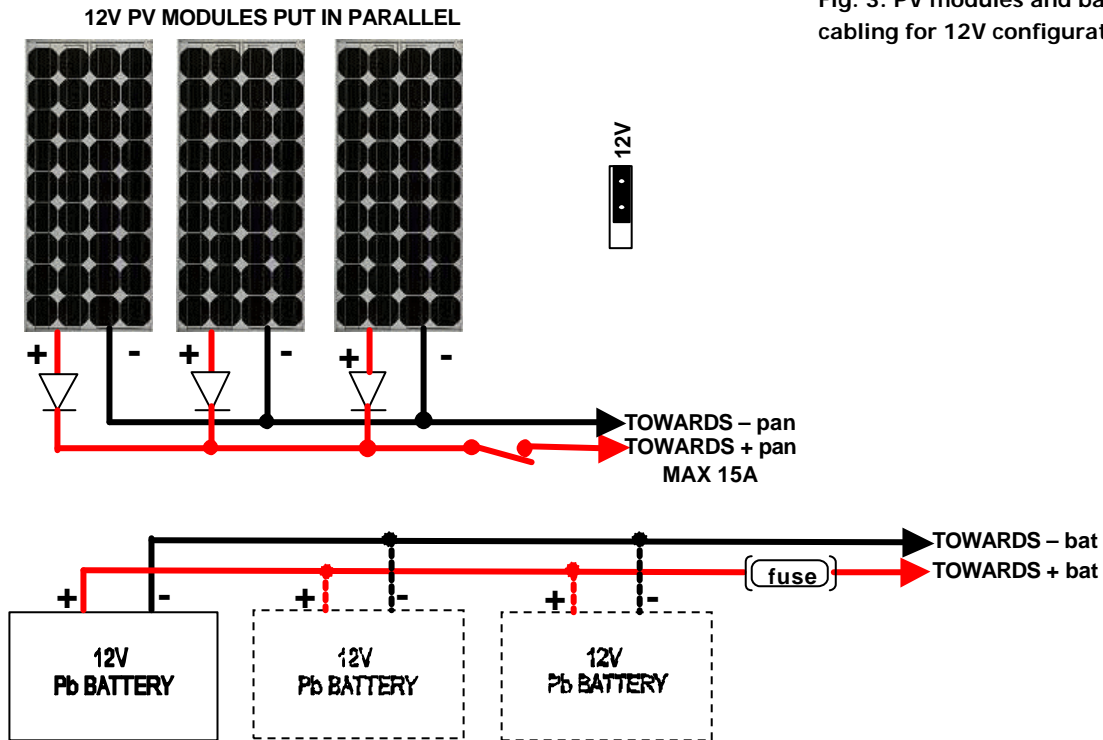

Fig. 3: PV modules and batteries cabling for 12V configuration
- Cable batteries as in figures 3 or 4 as working voltage needs.